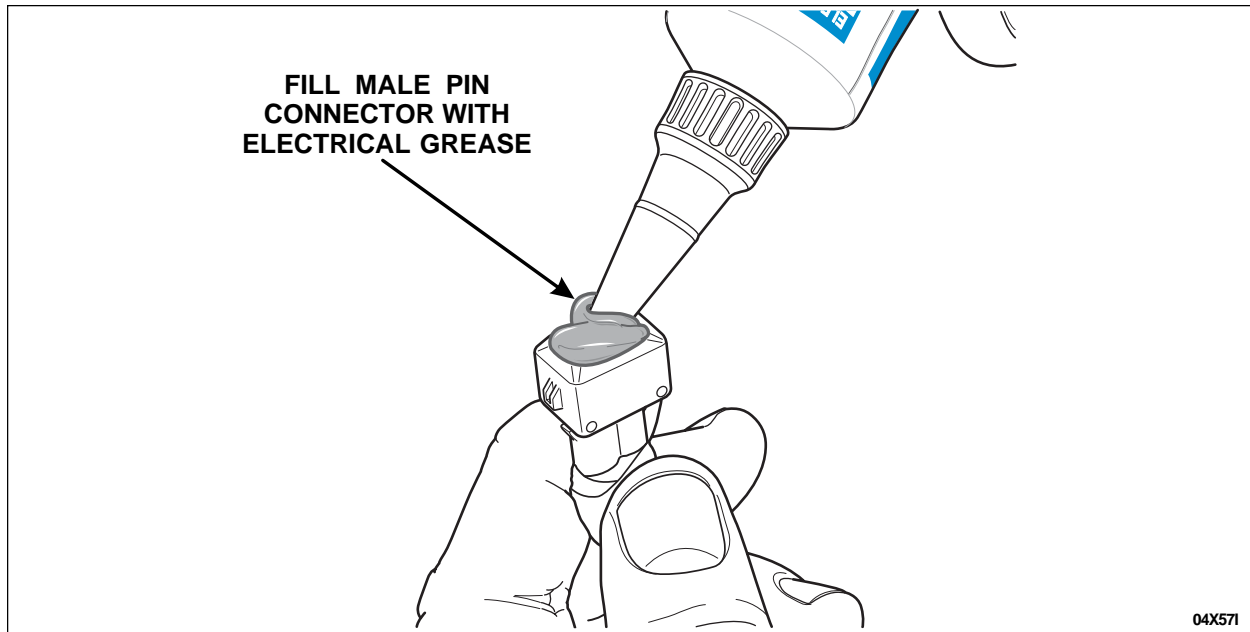

FIGURE 4
9. Before installing the jumper harness, fill the vehicle harness end of the jumper (male pin connector end) with Motorcraft Electrical Grease II XG-15-A. See Figure 4.